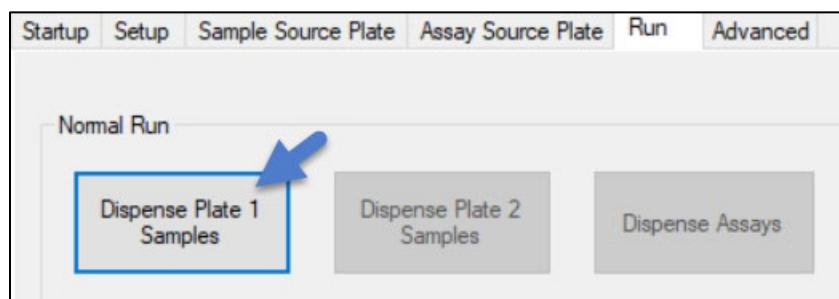

Figure 60. The [Dispense Plate 1 Samples] button on the *Run* tab for the 6 assays X 768 samples layout.
5. Remove seal from Plate 1, load the plate into the SmartChip MSND, and initiate "Plate 1 Samples" dispense (Figure 60).